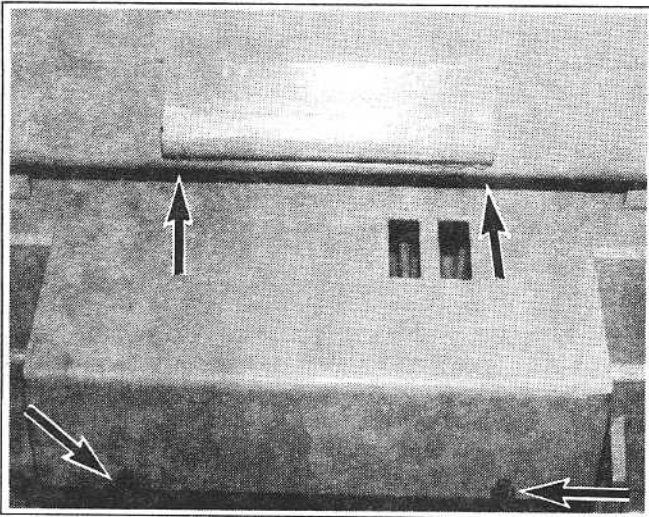

Figure 2-1
The Front Floor Plate is located in front of the T-Bar Panel under the foot pedals. Removal of this plate will provide access to the hydraulic control valve and lower front frame area. The plate is secured with four (4) 3/8 inch cap screws, two (2) at the front of the frame and two (2) at the T-Bar Panel. (See figure 2-1)